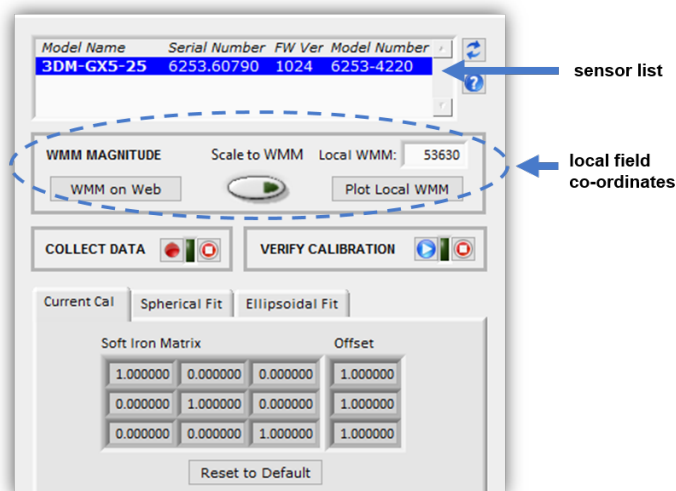

Figure 26 -Sensor Menu
3. The sensor should automatically appear in the sensor list. If not, use the Refresh button to query it and then select the sensor (Figure 26 - Sensor Menu).